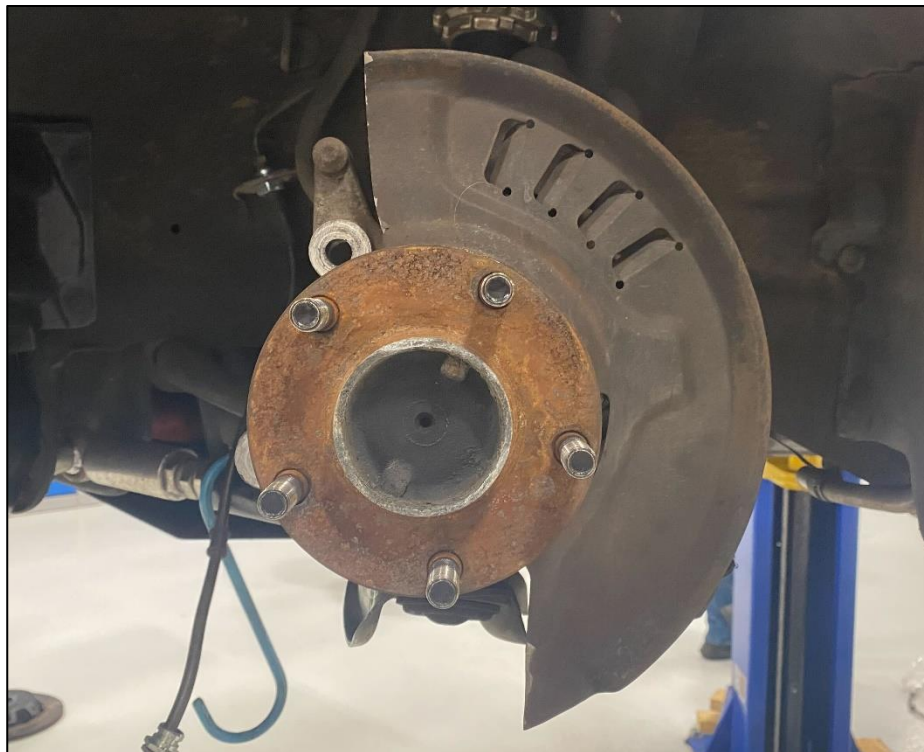

Figure 3
8. The Dust Shield will need to be trimmed or completely removed to clear the Bracket and larger Brake Rotor. Using a Cutoff Wheel, Dremel, Tin Snips or similar tool, trim the Dust Shield as shown below. *Figure 3.*